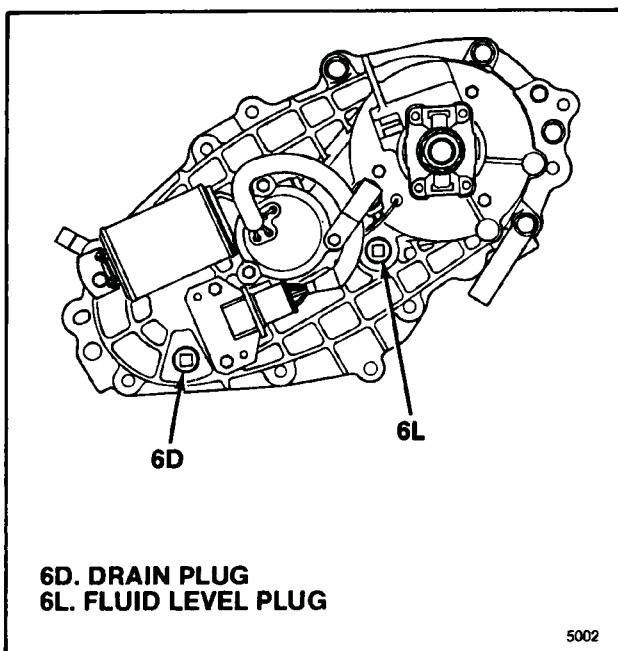

Figure 2-1. Drain and Fluid Level Plugs
- Wipe fluid level plug (see figure 2-1) and surrounding area clean.
- Wipe fluid level and drain plugs (see figure 2-1) and surrounding areas clean.
- e. Place drain pan under transfer case and remove transfer case drain and fluid level plugs (see figure 2-1). Drain all fluid from transfer case and re-install plugs.
- g. On mechanical shift units, disconnect shift linkage from transfer case shift shaft (103).
- h. Disconnect speedometer cable from transfer case cover (26).
- i. Disconnect breather hose from transfer case breather barb (82).
- j. Disconnect front driveshaft from transfer case front slip yoke assembly (81) or yoke (5C).
- k. Disconnect rear driveshaft from transfer case rear output companion flange (4) or yoke (5).